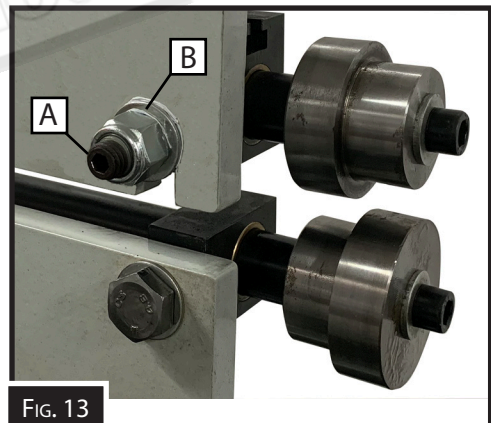

FIG. 13
1. With an Hex key hold the set screw "A" in Figure 13.
2. Tighten the nyloc nut "B" in Figure 13 until the block is tight then back the nyloc nut off half a turn or until the block moves with the (39#) Tension Adjustment Handle.